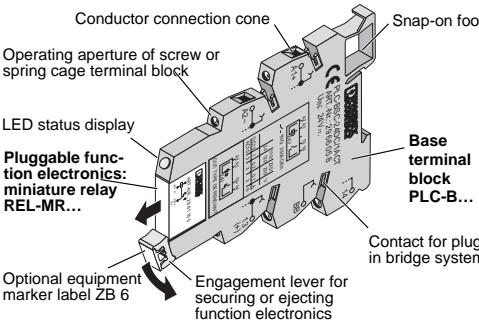

Fig. 1
- b) REL-MR..., the pluggable miniature relay (see fig.1).